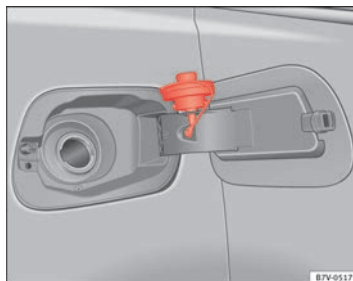

Fig. 165 Open tank flap with tank cap attached to the holder
- Unscrew the tank cap anticlockwise and insert it in the hole in the tank flap hinge ⇒ Fig. 165.